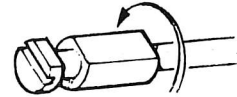

Fig. 27. REVERSE SELECTOR SHAFT
18. Rotate 5th./Reverse selector shaft (Fig.27) through 180° such that the 'flat' on shaft will clear the Reverse arm when it is withdrawn. Using dummy shaft (14A), tap out existing shaft towards front of casing. As the existing shaft is tapped out, the dummy shaft will enter its location, thus retaining the spring, ball and plunger in the Reverse interlock assembly. Note also, that as the existing shaft is removed, the core plug in the front wall of casing will be displaced from its location.